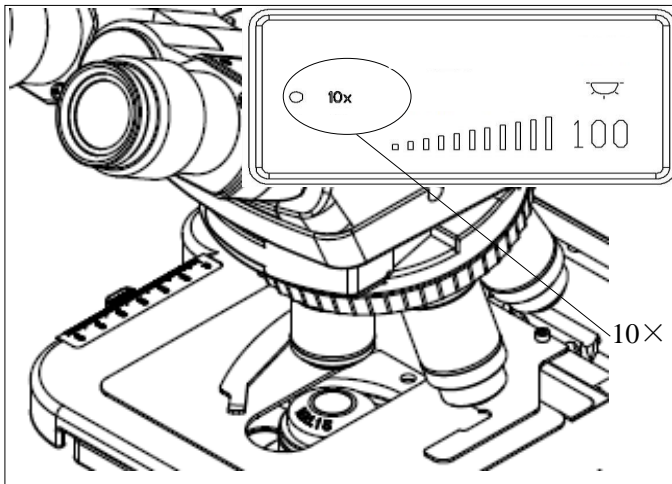

Fig.7
3-2-5 Install Objective Lens (Fig.7)
2. After the customer turns on the power supply, the converter turns to a certain position, and the corresponding objective lens doubling rate on the LCD screen will illuminate (as shown in Fig.7), and the corresponding objective lens is installed in that position.